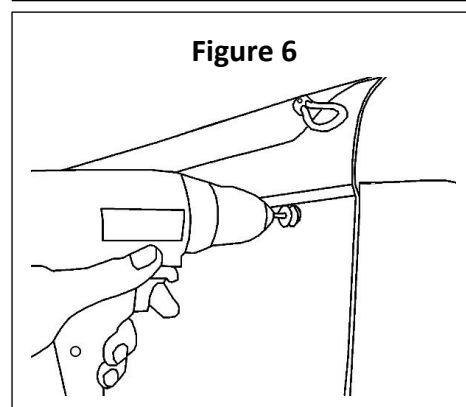

Figure 6
14. With a 4mm drill bit drill holes in these positions and pop rivet a rope button to the tailgate. Attach the rear bunji loops to the buttons as you go. **See Figure 6**